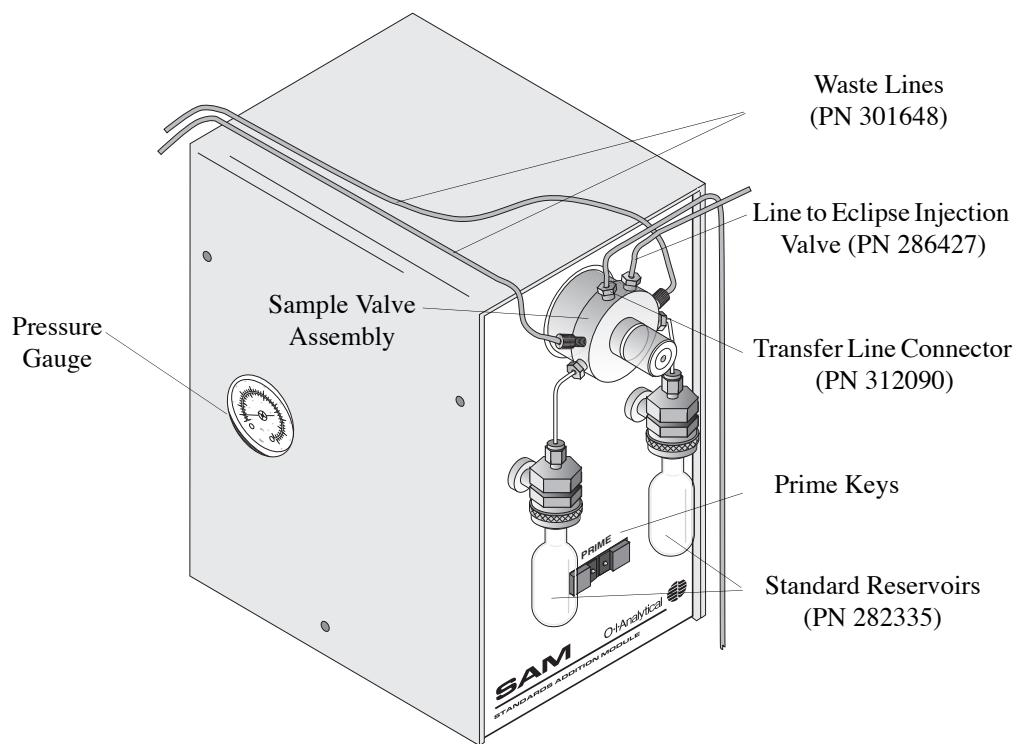

Figure 3.7. SAM Option, Front View
9. Connect the 1/16" nickel-tubing transfer line (PN 321955 for Eclipse, PN 286427 for Model 4560) to the SAM sample valve assembly's top right connector, depicted in Figure 3.7.
11. Connect the 1/16" nickel-tubing transfer line (PN 312090) to the SAM valve assembly's top left connector, depicted in Figure 3.7.